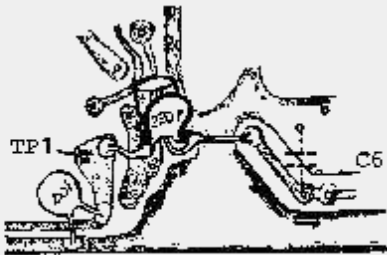

Figure 2
3. Remove the sex (6) screws securing the PLL unit to the chassises and fold the unit over, to allow access to the foil side of the circuit board.
4. Remove the jumper wire that is installed between TP-1 and C6. Install the parallel circuit consisting of the 220 pF capacitor and the 470  $\mu$ H coil in its place. See figure 2.
5. Install the .001  $\mu$ F capacitor as shown in figure 2.